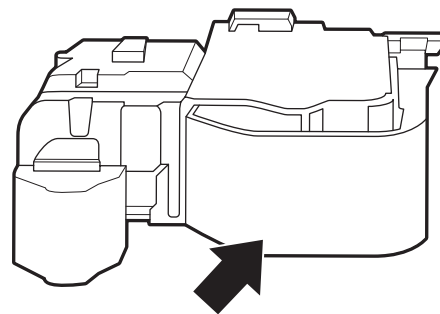

Figure 2
2. Locate the locking mechanism (Figure 2) on the right-hand side of the washer interior about half-way down. Press down on locking mechanism until the latch is released. The door can now be opened and the laundry removed, if needed.